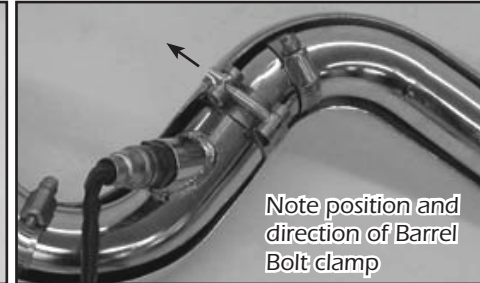

FIGURE 7
9. Slide barrel bolt clamp (supplied) into position on pipe mounting post attached to bracket 422-P or 728-P, do not tighten at this time (Figure 7).